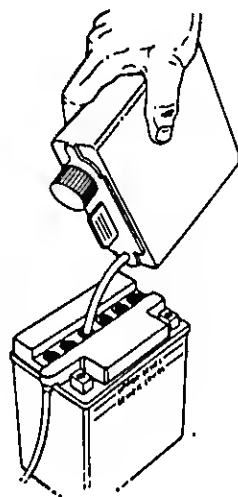

FIGURE 9.
5. Fill each battery cell slowly and carefully to the UPPER LEVEL line marked on battery. See figure 9. Use caution as the acid level will rise rapidly after the bottom of the cell is filled.